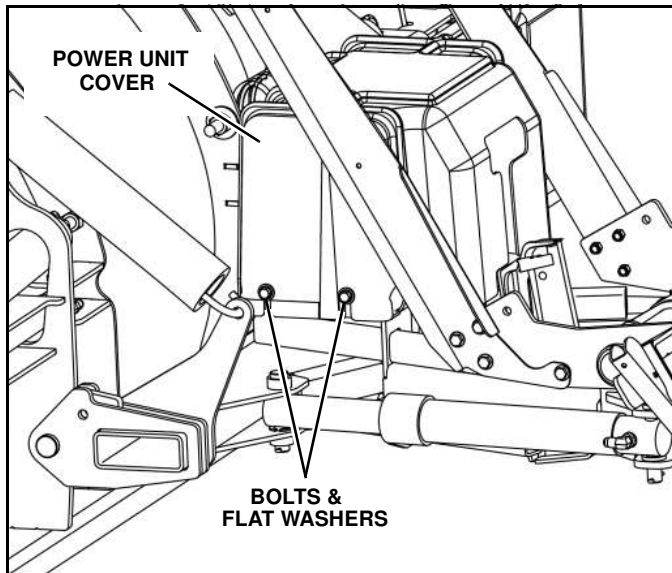

Figure 1-34
3. Loosen two bolts and washers on each side and remove the power unit cover. (See Figure 1-34)